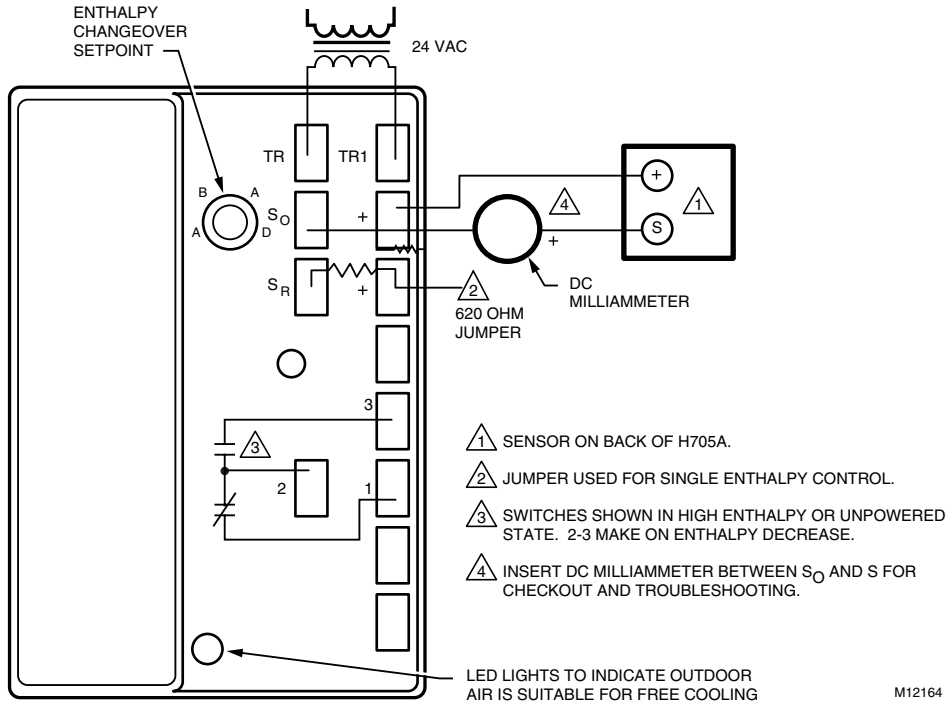

Fig. 8. Simplified schematic of H705A control circuit and meter location for checkout and troubleshooting.
E. Connect a dc milliammeter between terminal SO of H705A and terminal S of the outdoor air sensor. (See Fig. 8.) If using differential enthalpy, the return air sensor may be checked by connecting a dc milliammeter between terminal SR of the H705A and terminal S of the return air sensor.	Milliammeter should indicate between 3 and 25 mA if sensor is operating properly. If milliammeter indicates zero, the sensor may be wired backward.